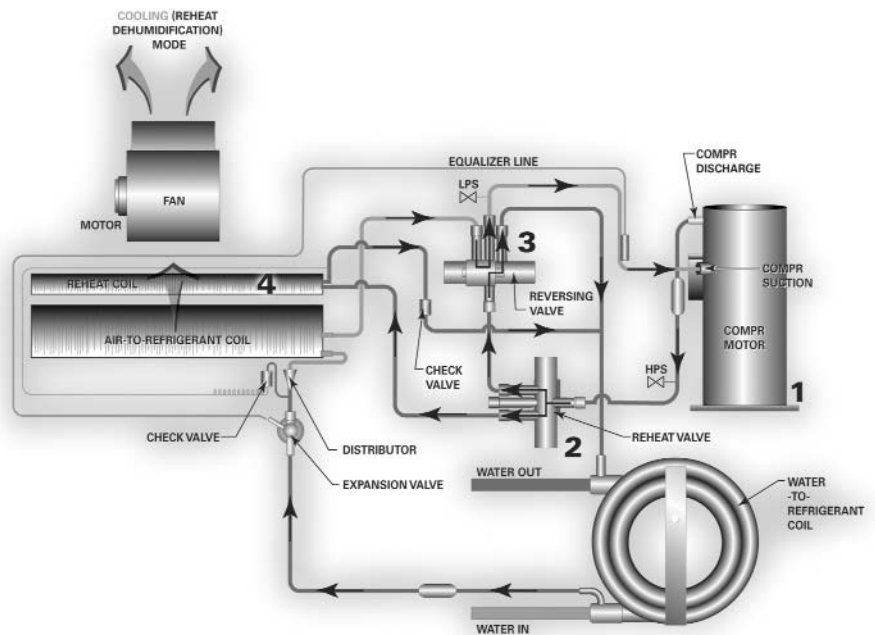

Figure 19: Hot gas reheat heat pump option.
When operating in the reheat mode (meaning the sensible temperature has been met in the space), the humidistat signals the reheat relay coil to energize, allowing the high pressure refrigerant gas to flow from the (1) compressor, through the (2) reheat valve, or through the (3) reversing valve, or through the (4) reheat coil for dehumidification (See Figure 19). A switching relay has been provided for the reheat application to adjust the blower motor from normal operation to low speed when hot gas reheat is energized.